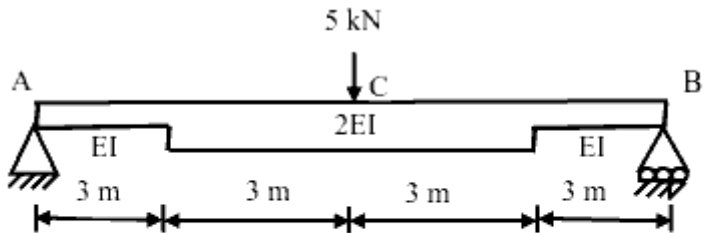

Fig. 2 Q-3 (a) (OR)
- Q.3 (a)** Find the slope and deflection at the center C of a simply supported beam AB as shown in Fig. 2 by Conjugate Beam Method. Take $I = 2 \times 10^8 \text{ mm}^4$ and $E = 2 \times 10^5 \text{ N/mm}^2$. **07**